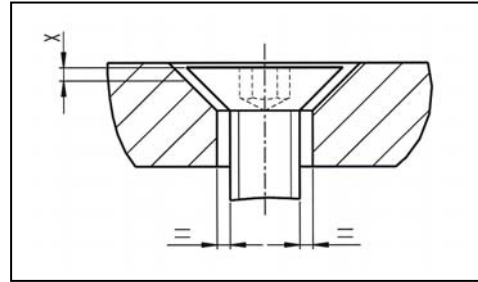

Fig. 3-4 Overload Protection and Oscillation Limitation
The counter-sunk bolts (9) must be used to set the lifting distance of the top plate (11) to approx. 5 mm, see dimension X in fig. 3-4. It is easiest to set the lift-off distance before installing the load cell. The combination mounting unit need not be dismantled to install the load cell.